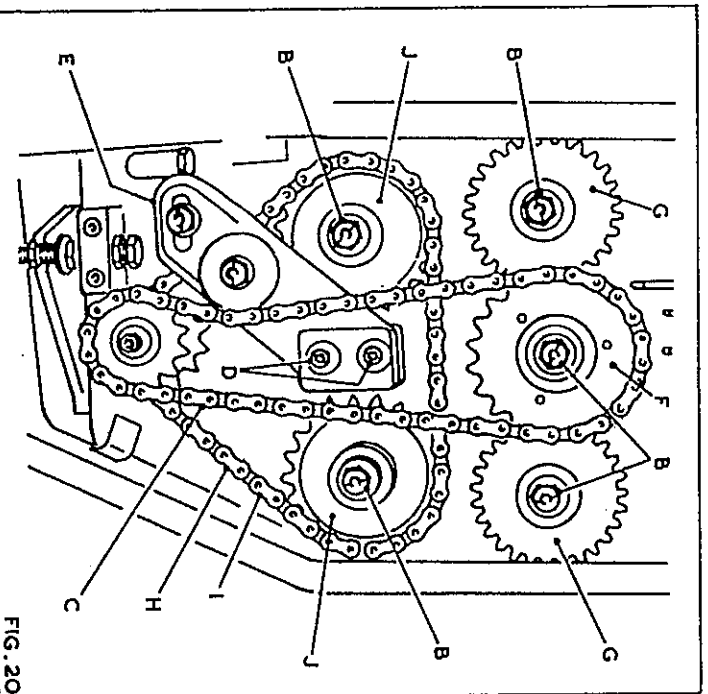

FIG. 20
1. Remove feed works drive cover at rear of machine then loosen aerolight nuts and washers "B" in Fig. 20 and remove.